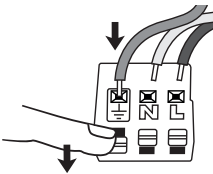

Fig. 6 Connecting the new line cord wires
3. Press down the tab marked with the symbol \perp or ground, while inserting the end of the green wire into the slot. See fig. 6. Release the tab to lock the green wire into place.